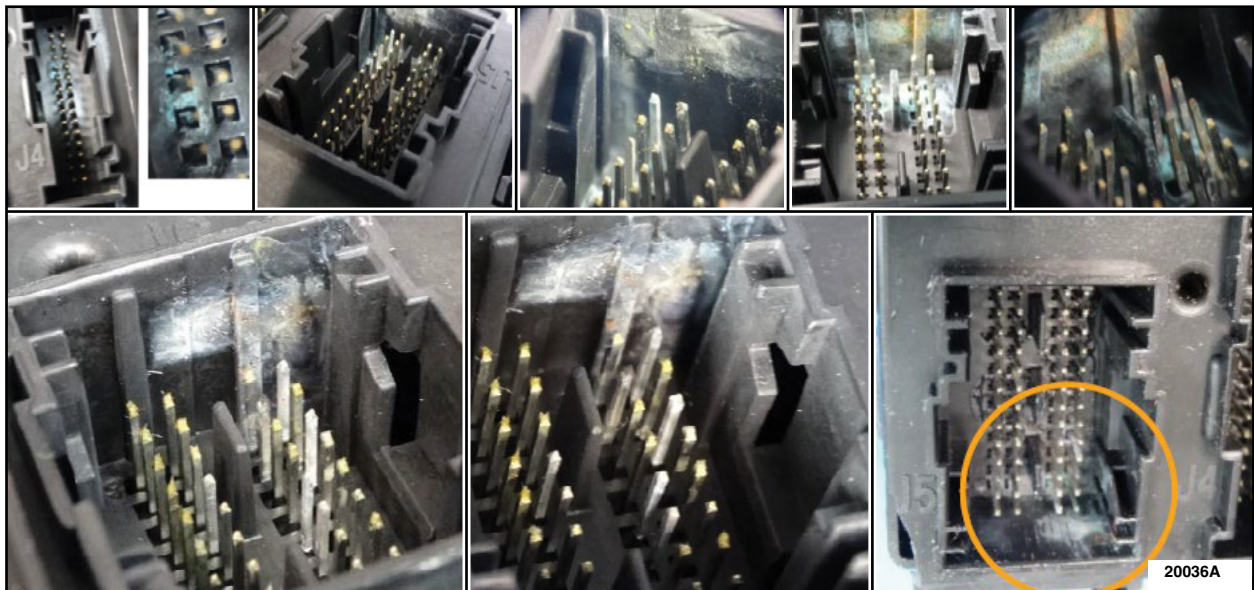

FIGURE 1
6. Inspect the BCM for any sign(s) of moisture and/or corrosion. See Figure 1 for examples of corrosion.